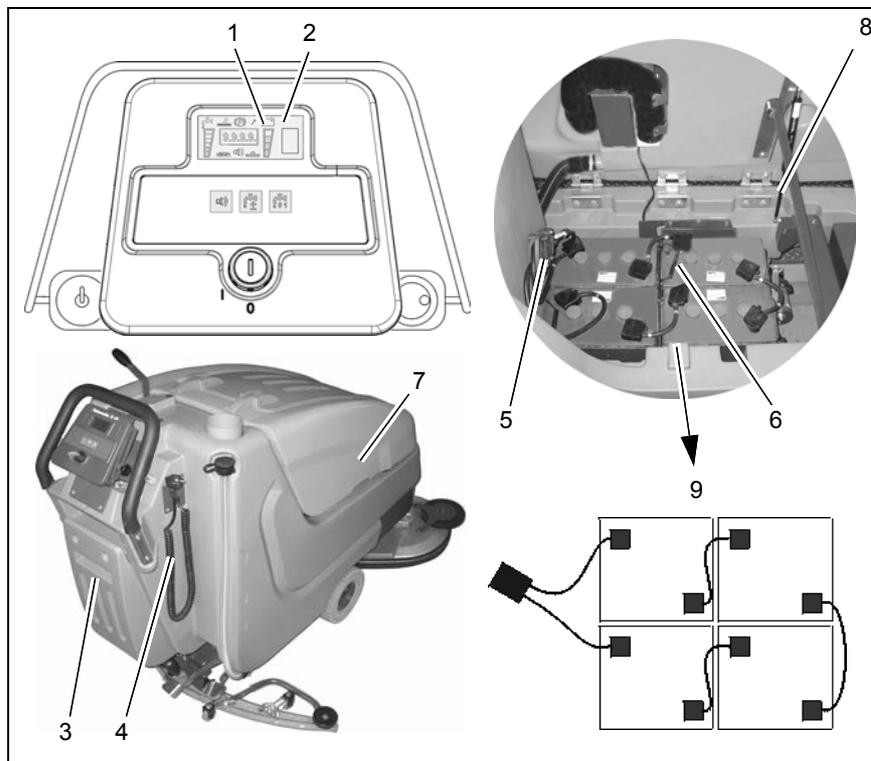

Fig.7
Use the integrated battery charger (Fig. 7/3) to charge batteries. Proceed to connection of the charger by means of the mains cable (Fig. 7/4) with safety plug. Charging batteries is recommended if at least one bar of the LDS display has extinguished after operation of the machine. On this behalf you are requested to observe the operating instructions of the charger 88-60-2723 as well as the operating instructions of the battery manufacturer. In case it is intended to change the type of battery the charger has to be adjusted only by Minuteman contract workshops.
3. Open empty recovery tank (Fig. 7/7) and secure by support (Fig. 7/8).
4. Disconnect battery connector (Fig. 7/5).
2. Open empty recovery tank (Fig. 7/7) and secure by gas pressure spring (Fig. 7/8).
4. Connect battery poles and enclosed connecting cables according to wiring diagram (Fig. 7/9). Provide for tight fitting and grease poles.